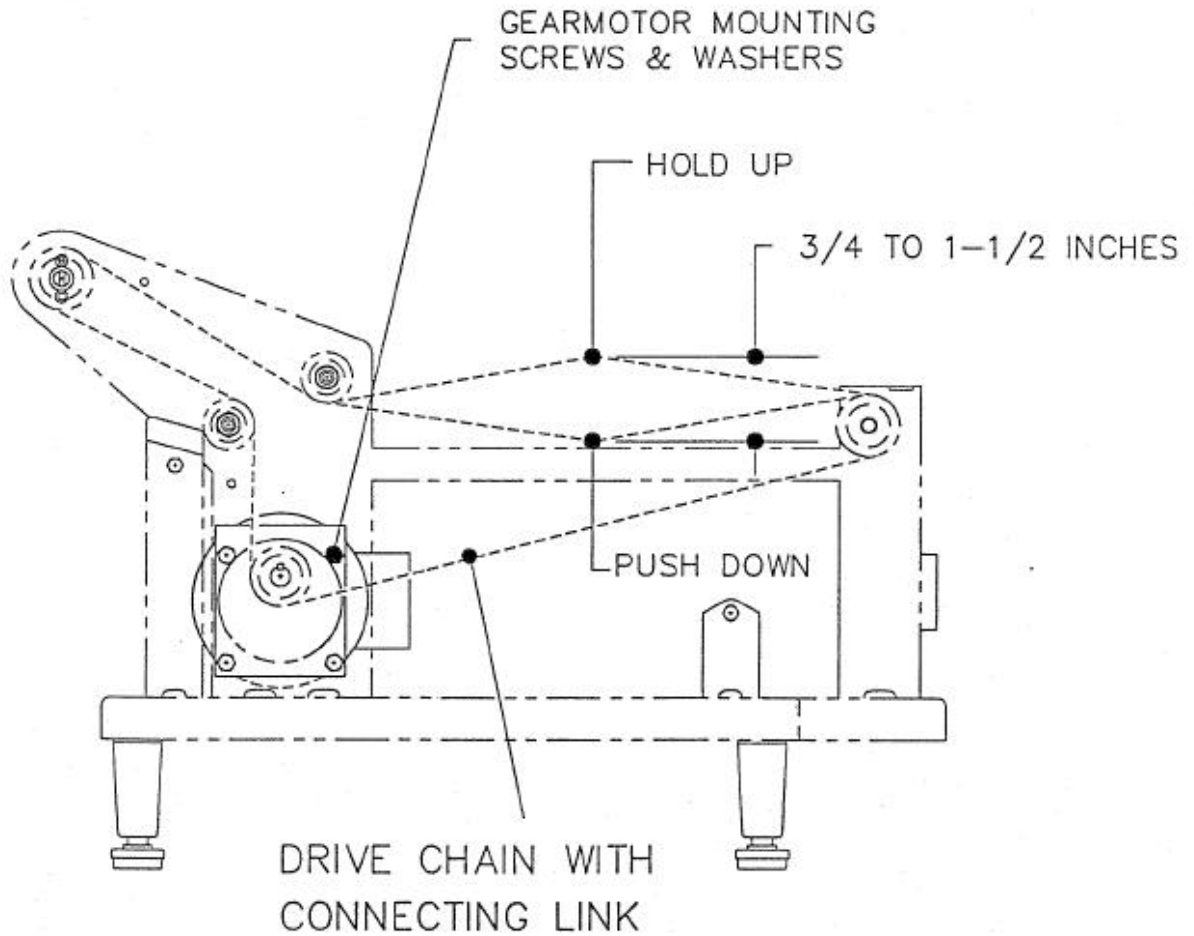

Figure 23
3. Install the new drive chain around the sprockets as shown in **Figure 23** and connect the new connecting link.
4. Remove the support from the gear motor and allow its weight to tension the drive chain and retighten the gear motor mounting screws. Drive chain tension is correct when the difference in "Push Down" and "Hold Up" is as shown in **Figure 23**. **DO NOT OVER TIGHTEN THE DRIVE CHAIN.**